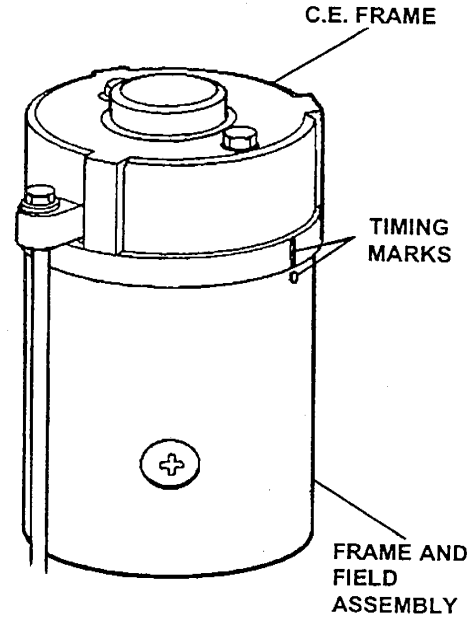

FIGURE 15. ALIGNING TIMING MARKS
8. Thru bolts (41).
- a. Install the thru bolts and tighten them by hand but do not close the gap between the C.E. frame and the frame and field assembly where the O-ring (20) goes.
- b. Roll the O-ring (20) back down into its installed position between the C.E. frame and the frame and field assembly.
- c. Align the timing ribs on the edge of the C.E. frame (14) with the timing spots on the frame and field assembly (A) to assure proper brush alignment. Refer to Figure 15. Marks are located in 2 places on the motor but will only match one way.